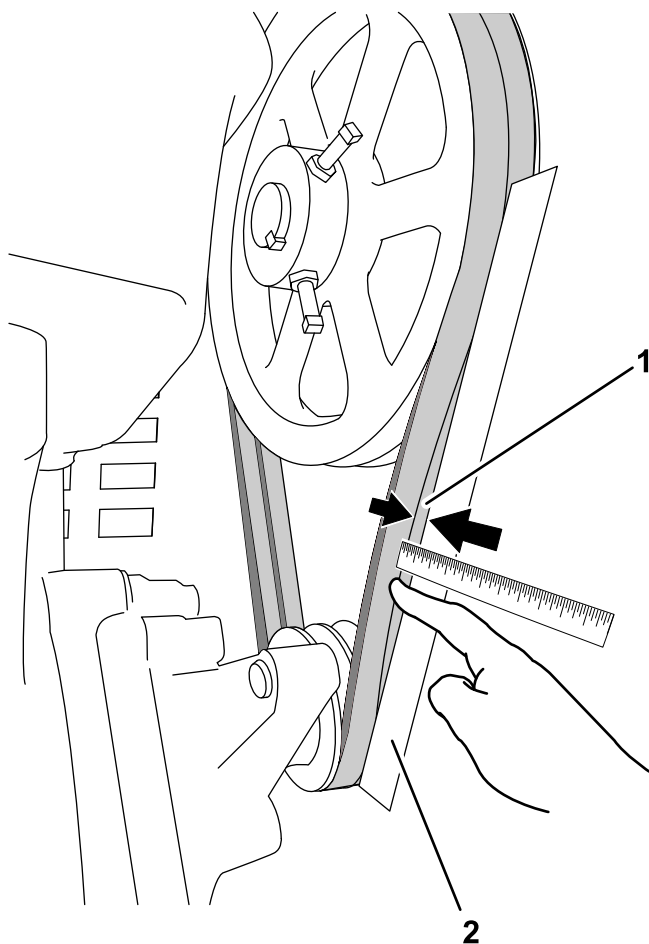

Figure 53
The drive belts should each have 1 cm (13/32 inch) of flex when applying 6.8 kg (15 lb) of pressure, at mid-span (Figure 53).
2. Lay a straightedge along one of the drive belts, from one pulley to the other (Figure 53).
3. With your finger, push on the belt with 6.8 kg (15 lb) of pressure, midway between the pulleys (Figure 53).
4. Measure the distance from the belt to the straightedge. The distance should be approximately 1 cm (13/32 inch); refer to Figure 53. If the belt tension needs adjustment, refer to Adjusting the Drive-belt Tension (page 35).